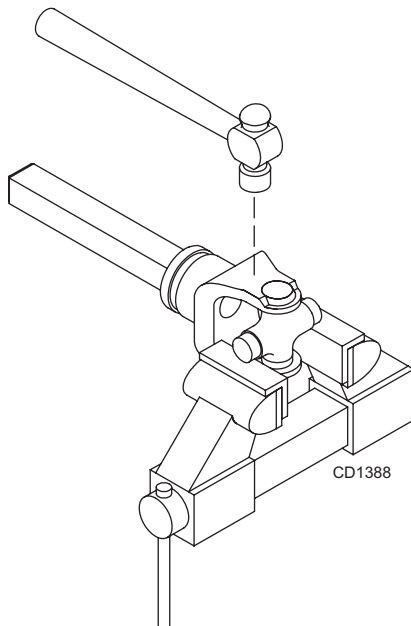

Figure 29
4. Place universal cross in vise as shown in Figure 29 and tap on yoke to remove cup. Repeat Step 3 for final removal. Drive remaining cup out with a drift and hammer.